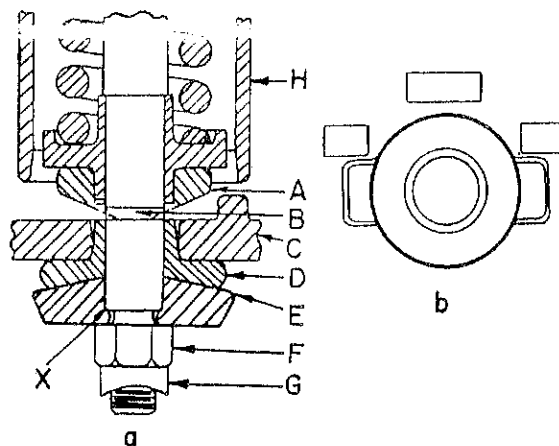

Fig. 36 - SNUBBER INSTALLATION
2. Remove all mounting parts except rocker "A", Fig. 36-a.
3. Insert lower stud (B) through hole in lower bracket (C) making sure rocker is properly located so it lies flat on the bracket with the wings against the steps. See Fig. 36-b.
5. Place rubber mounting block (D) over stud (B) with small neck inserted in hole in bracket. Place end cap (E) over stud with the rounded side against the rubber mounting block. Assemble standard hex nut (F) and tighten to about 100 pounds pull on a fifteen inch wrench, or until the shoulder in the end cap is drawn solidly against the shoulder on the stud. See point (X) on Fig. 36-a. This will squeeze the rubber mounting block to the proper degree of compression.
6. Assemble the McLean-Fogg lock nut (G) and tighten until it is distorted to the point where the concave surface becomes flat against the standard hex nut.